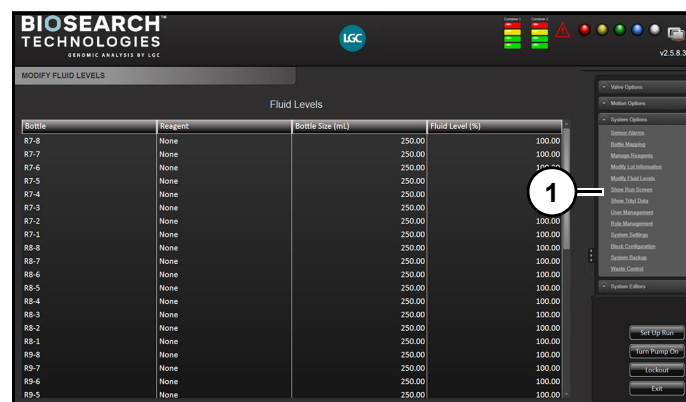

Figure 55
Modify Fluid Levels (1) (Figure 55) is used to track fluid levels. Bottle size can be entered, and after each run, user can manually subtract amount used in previous run in terms of percentage loss. Helps keep track of chemical consumption and ensure user checks reagent levels to prevent failed runs due to insufficient chemicals.